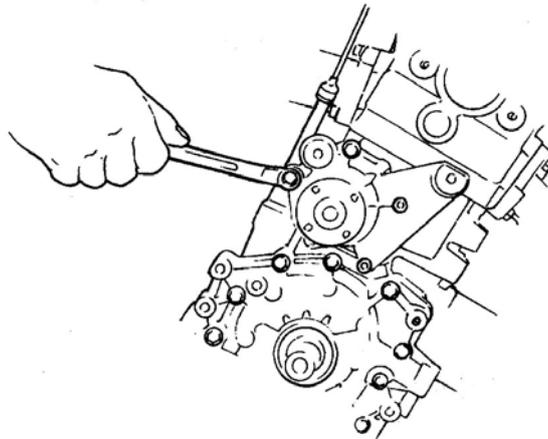

FIG.7-11
- (8) Remove crankshaft timing pulley.
- (9) Remove timing belt inner cover.
- (10) Remove water pump(FIG.7-11)